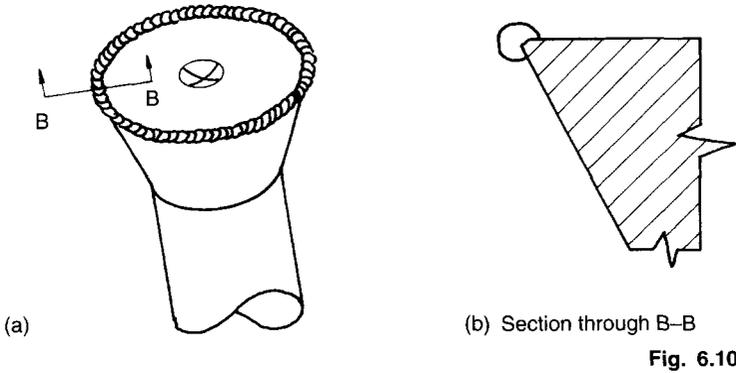

Fig. 6.10
**Solution 4** The damaged edge will be cleaned with a solvent and possibly a fine wire brush, avoiding the mold face at all times, then welded; see Fig. 6.10.